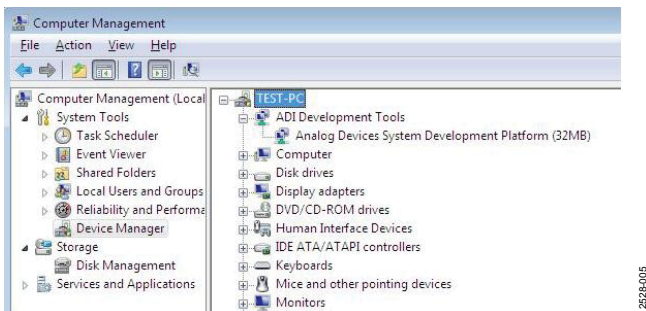

Figure 12. Device Manager, Checking the Board Connected to the PC Correctly
3. Access the **Device Manager** by right clicking **My Computer**, then **Manage**. A dialog box appears asking for permission to allow the program to make changes to the PC. Click **Yes**. The **Computer Management** box appears. Click **Device Manager** from the list of **System Tools** (see Figure 12).